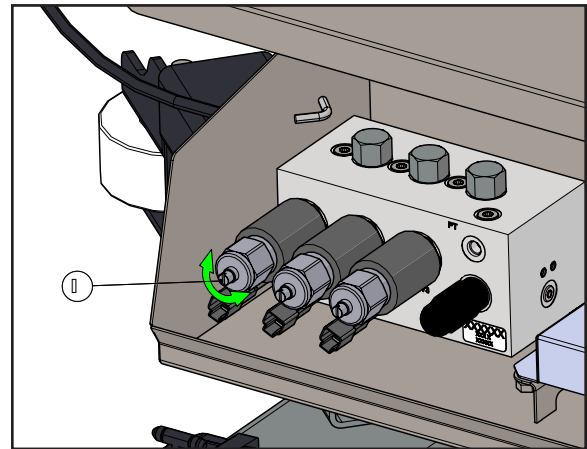

Figure 7
4. Figure 7 - Turn valve knob/stem (D) to adjust hydraulic flow to function - conveyor output, spinner RPM and liquid output.